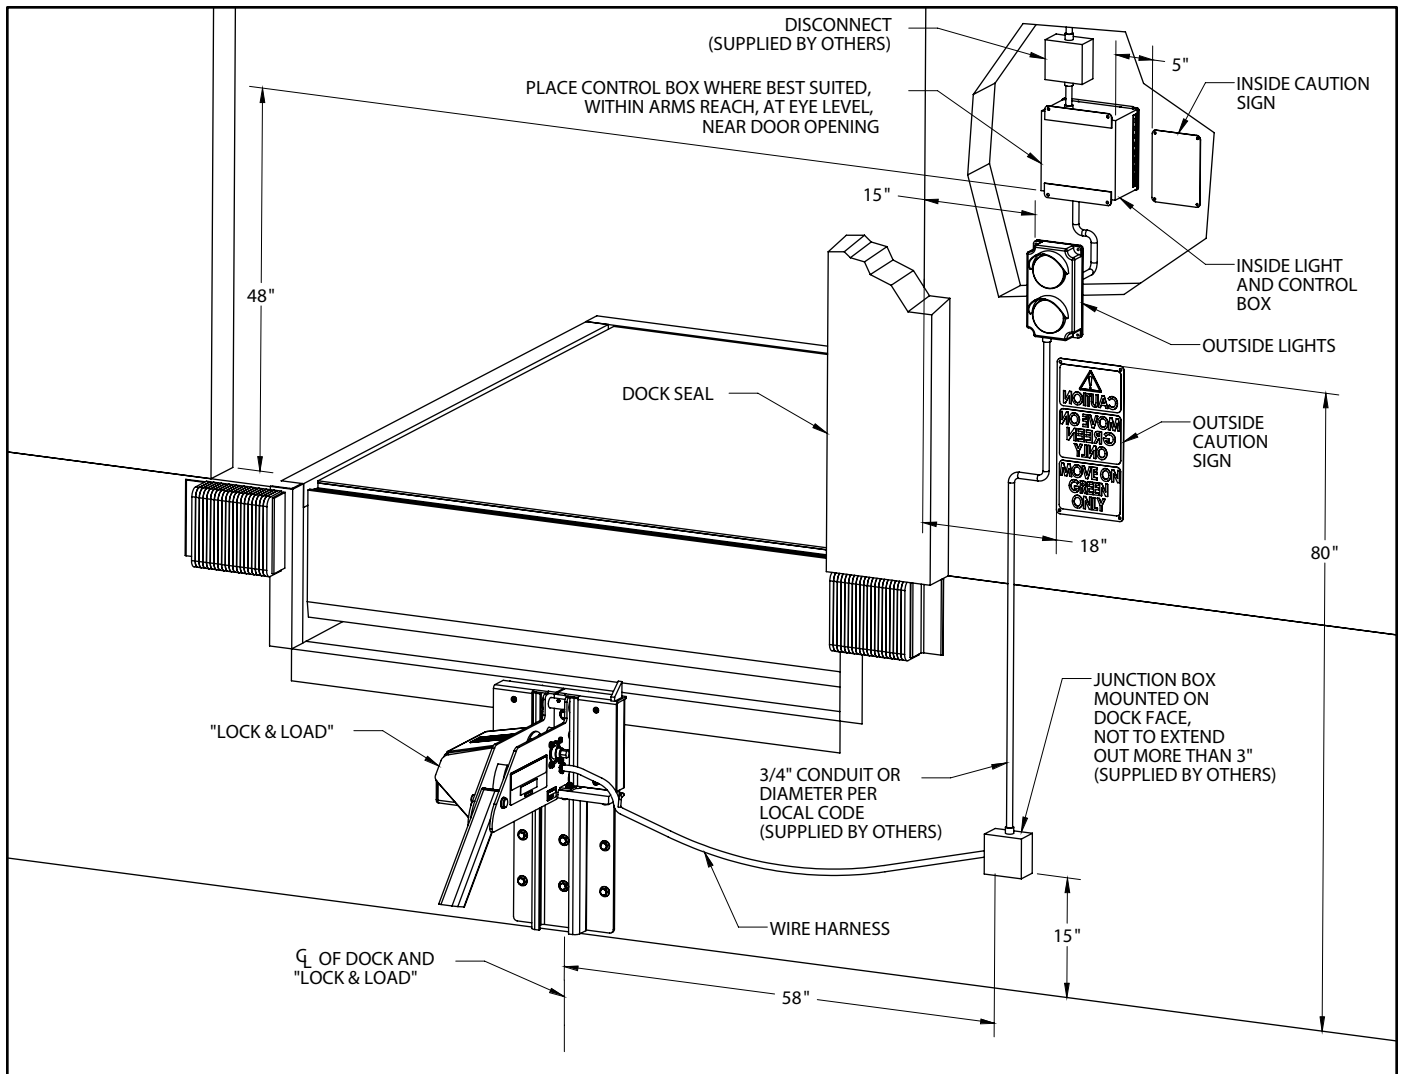

Figure 5-1-2 Suggested component location
There is one (1) driver outside caution sign and one (1) operator inside caution signed supplied with each Hörmann Lock & Load™ vehicle restraint. (Mounting hardware supplied by others). Mount outside sign as shown in Figure 5-1-2. Mount the inside sign next to the control box. Attach placard to control box with zip tie supplied or mount next to the control box. Install all signs provided.